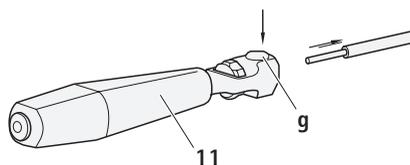

Fig. 16
- ▶ Press button g and remove handle 11, see Fig. 16.